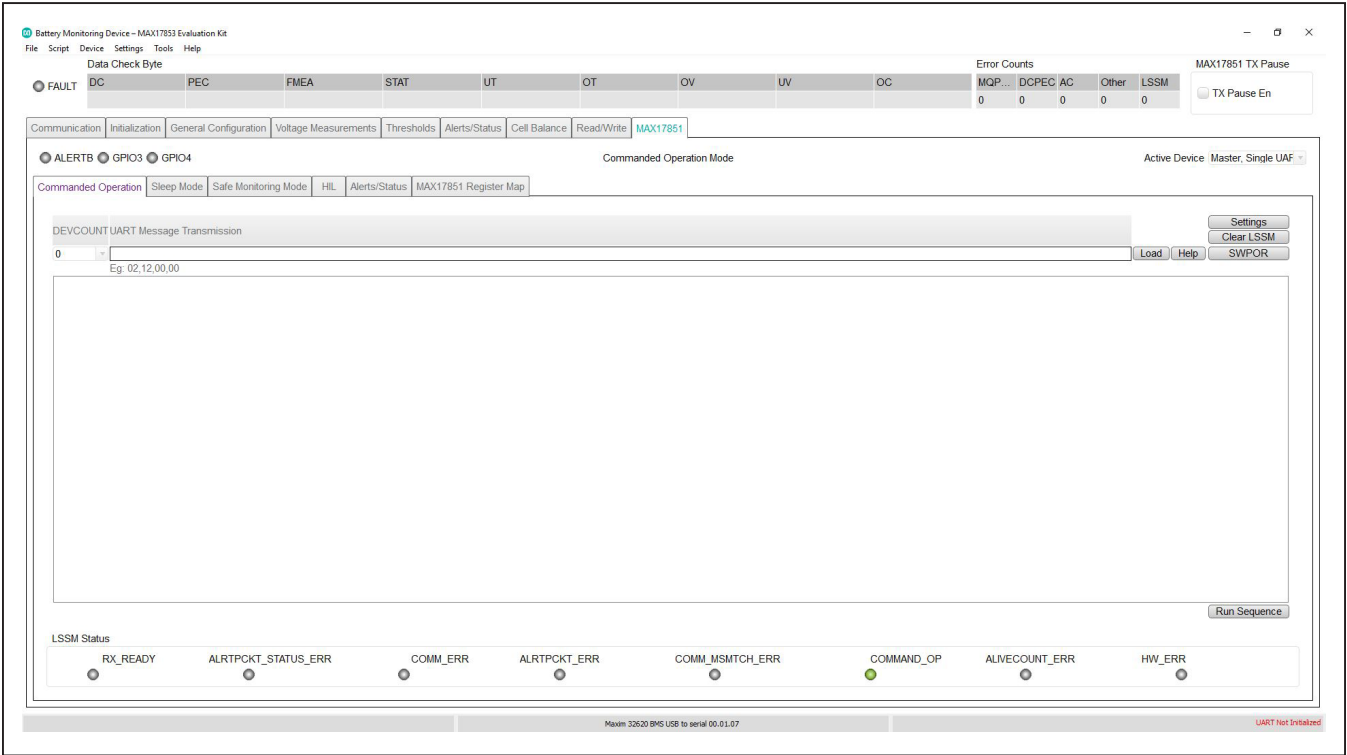

Figure 26. Commanded Operation tab
- 4) Select the **MAX17851** tab (Figure 26) and verify that the current mode is **Commanded Operation Mode**.
4) Select the **MAX17851** tab (Figure 26) and verify that the current mode is **Commanded Operation Mode**.
- 10) Select the **MAX17851** tab (Figure 26) and verify that the current mode is **Commanded Operation Mode**.
The **MAX17851** tab (Figure 26) provides direct access to the registers of the MAX17851. The sub-tabs in the **MAX17851** tab (see Figure 26) offer powerful tools to configure and monitor the current state of the MAX17851. The **Commanded Operation** sub-tab (see Figure 26) is utilized to send UART commands to the daisy chain.